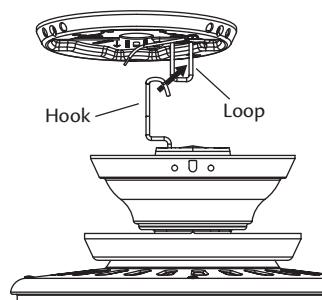

Figure 12 - Hanging the fan
- Raise the fan and place the hook through the loop on the ceiling plate as shown in Figure 12. Use the note and arrow engraved in the ceiling plate to assist in determining the direction to assemble.